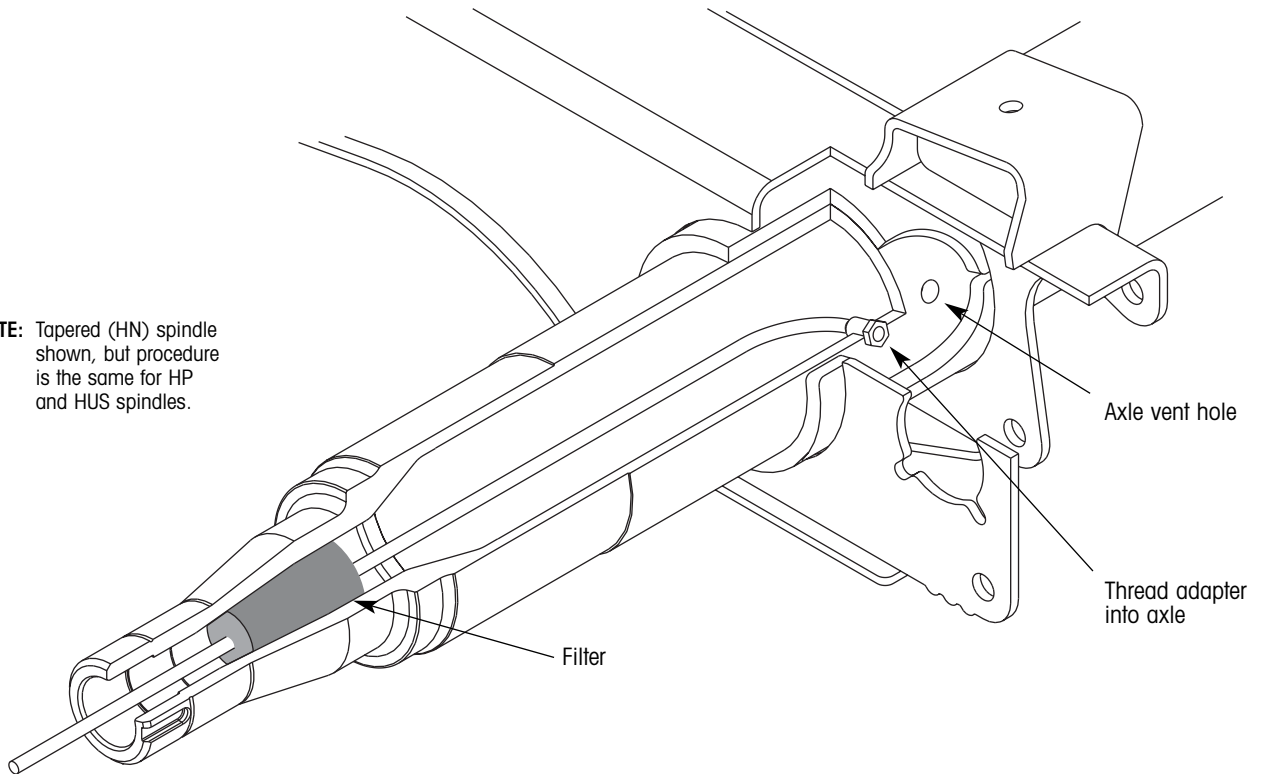

Figure 8. Installed position of hose assembly
3. Thread the large adapter end of the axle hose assembly into the axle and tighten to 20 ft. lbs. (27.1 N•m) of torque (figure 8).
5. Cut an inch-wide slit in the center of the axle filter and feed the metal braided hose through the slit in the filter. Push the axle filter into the spindle cavity (figure 8).
6. Repeat steps one through five on the other end of the axle. Leave the axle vent hole (figure 8) vacant for now. This hole will be used to accommodate the axle vent in a later installation.